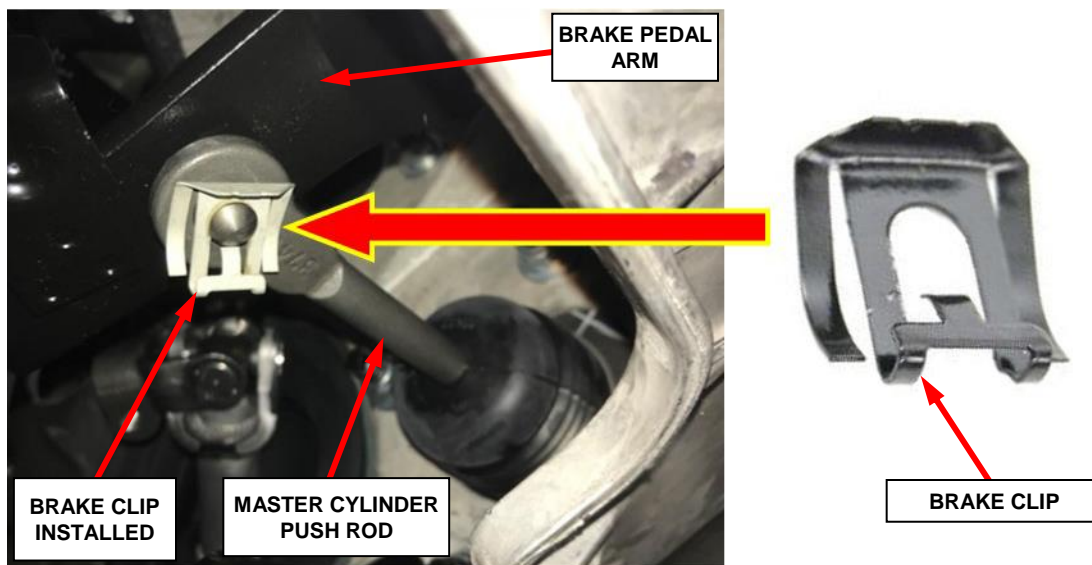

Figure 4 – Install Clip Securing the Brake Master Cylinder Push Rod to the Brake Pedal Arm
5. If clip is missing, install a clip onto the brake pedal pivot pin securing the master cylinder push rod to the brake pedal arm (Figure 4).